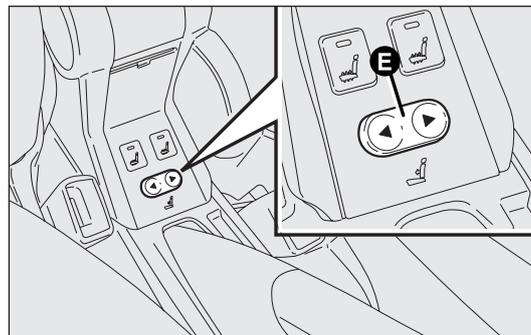

fig. 24
**Electric lumbar support adjustment fig. 24